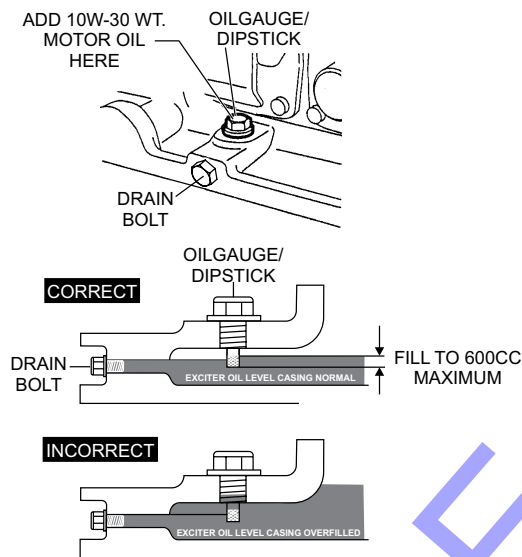

Figure 33. Vibrator Oil Drain and Check Plugs
1. In every 100 hours of operation, with the machine positioned horizontally, use a 3/4" (19 mm) wrench and remove vibrator oil level check plug (Figure 33). Visually inspect and see if vibrator oil level is up to filler port. Be sure to clean area around check hole to prevent dirt and dust from entering.
3. Using a 14 mm wrench remove the vibrator oil drain plug (Figure 33) from the vibrating plate assembly.
4. After hydraulic oil has been completely drained from machine, fill with 10W-30 motor oil to the appropriate safe operating level (Figure 33).